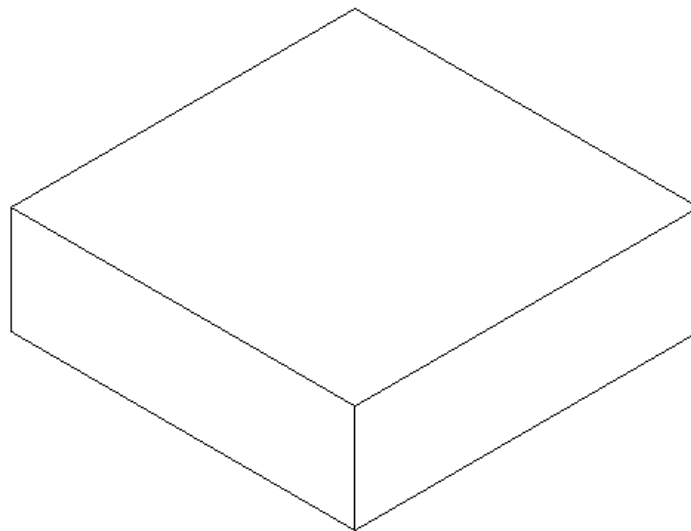

Figure 2.23
20. Open the default 3D as shown in Figure 2.23.